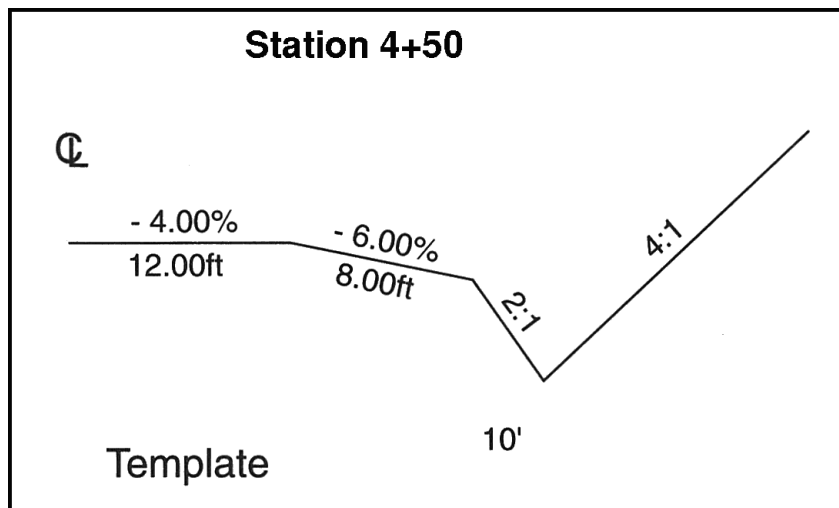

Figure 8-89 Station 4+50
2. Type 450 and press **STA** to start editing the template at station 4+50. This new template is a copy of the template at the previous station. You will change it to match the template in Figure 8-89 below.